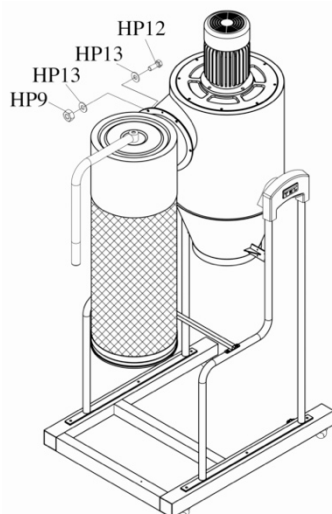

Figure 9
10. Place gasket (X) between canister filter and main housing. Install canister filter onto main housing, and tighten with hex. cap screws (HP12) and washer (HP13) and nuts (HP9). See Figure 9.